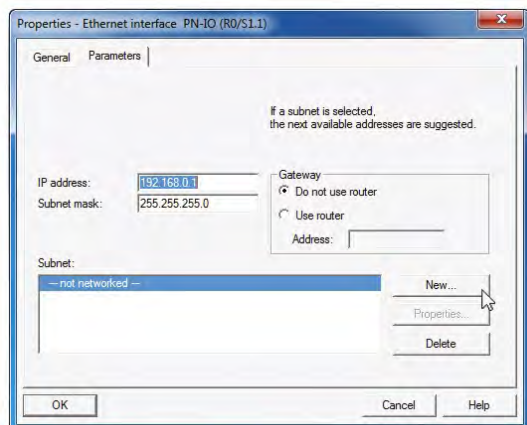

Fig. 58: Set IP adress of CP1616 (source: Siemens)
- CP1616 (Fig. 58)
The dialog box “Properties – Ethernet interface” opens (Fig. 58).
6. To create a subnet, click button “New” (Fig. 58).